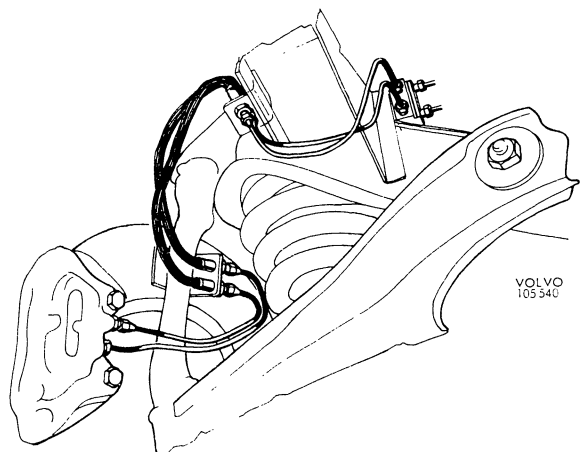

Fig. 6-15. Installation of front brake hoses
6. Fit the attaching bolts for the stabilizer. Connect the brake hoses according to Fig. 6-15.
8. Connect the brake lines as shown in Fig. 6-15.